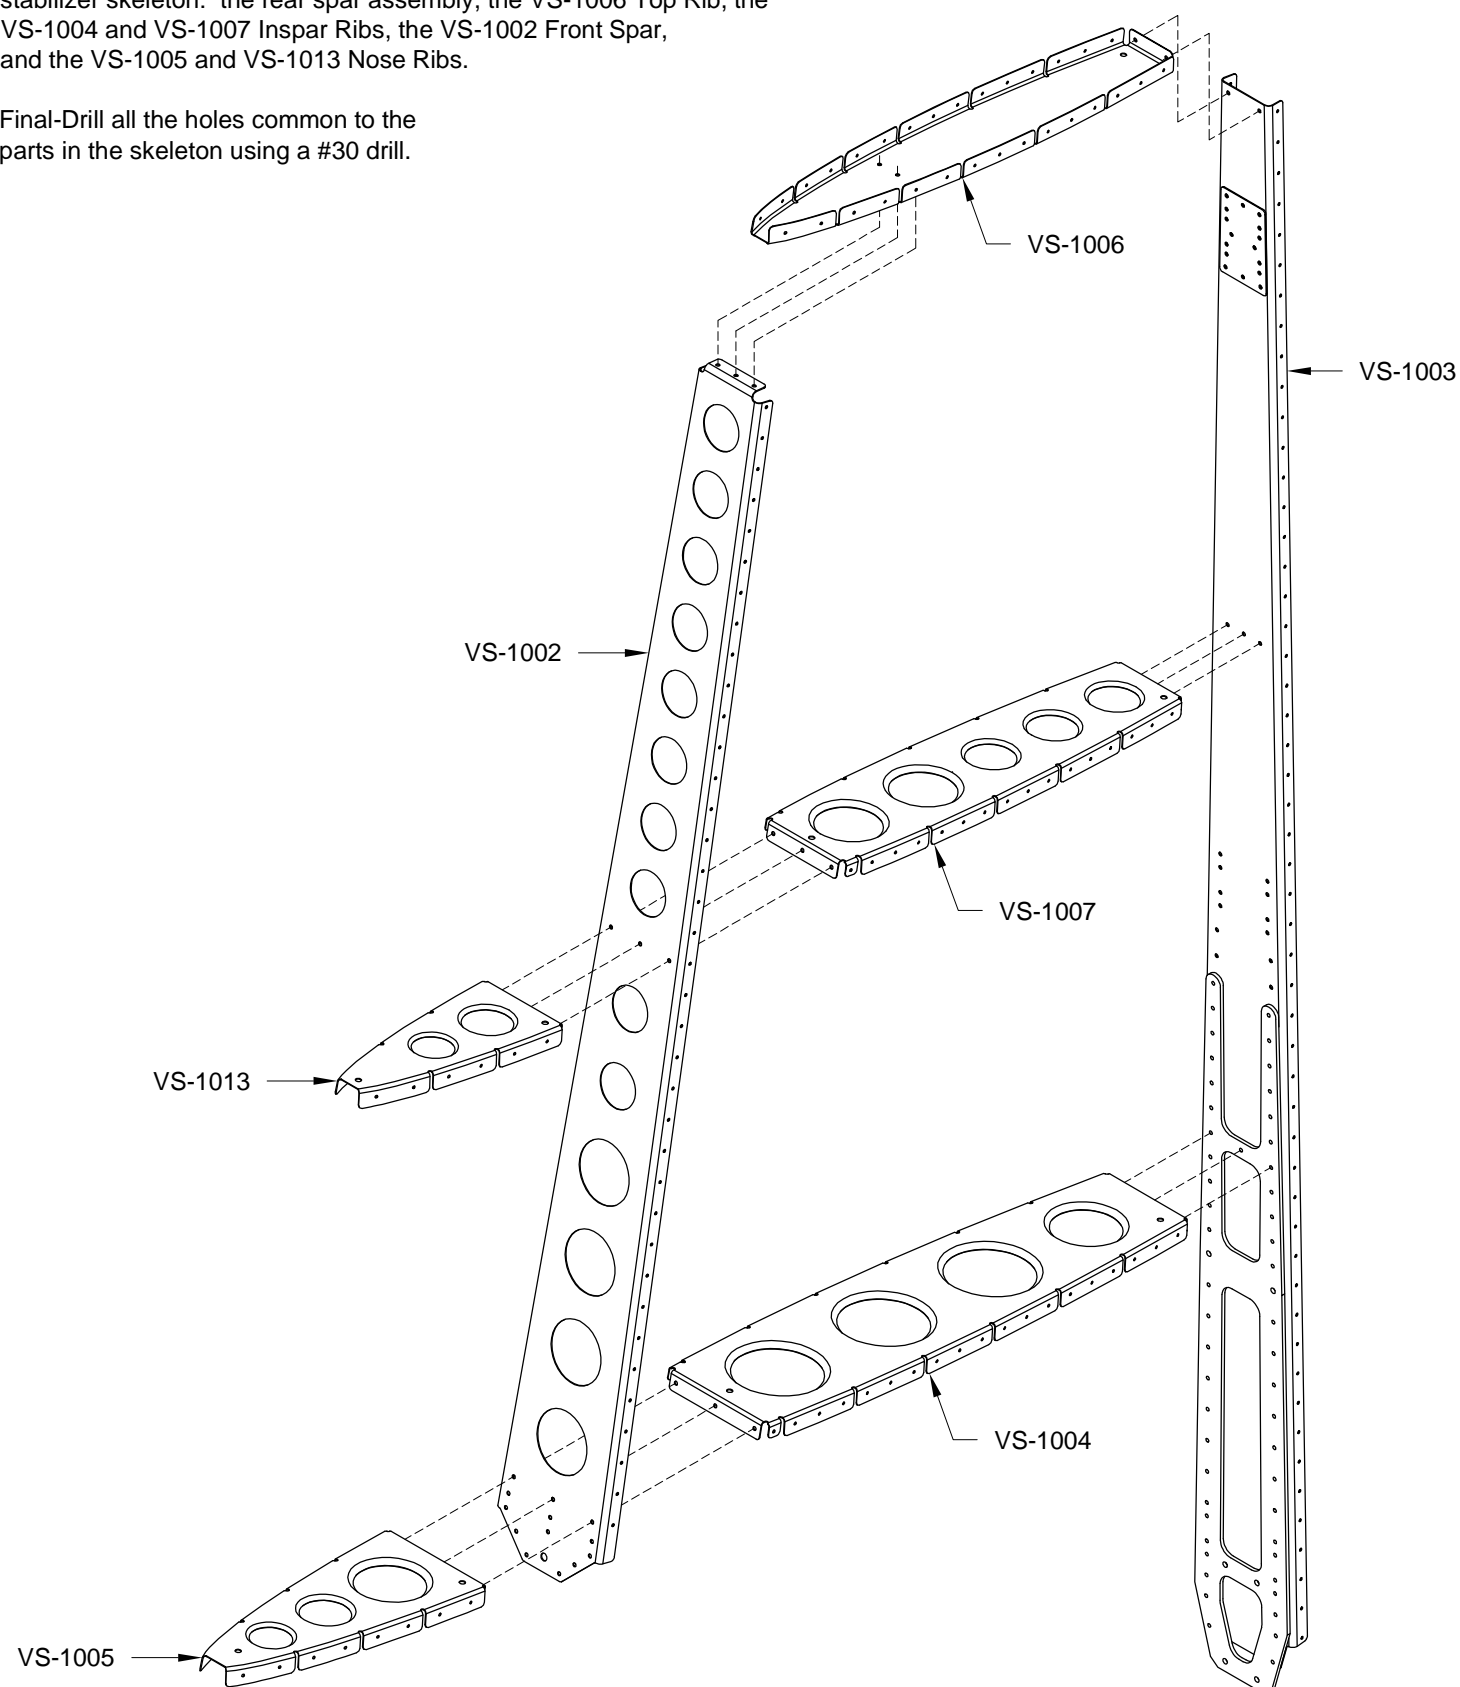

FIGURE 1: SKELETON ASSEMBLY
Step 2: As shown in Figure 1, cleco together all the parts of the vertical stabilizer skeleton: the rear spar assembly, the VS-1006 Top Rib, the VS-1004 and VS-1007 Inspar Ribs, the VS-1002 Front Spar, and the VS-1005 and VS-1013 Nose Ribs.
Step 5: Empennage fairing screw holes are indicated on Page 6-6, Figure 1, along the bottom edge of the depicted skin. Mark the corresponding holes in the VS-1001 Vertical Stab Skin, and in the flanges of the VS-1005 Bottom Nose Rib, the VS-1004 Bottom Inspar Rib, and the VS-1003 Rear Spar.
Step 6: Dimple all the holes of the VS-1001 Vertical Stab Skin except for the following: the eight vertical stab tip fairing attachment holes at the top of the skin (see Page 6-6, Figure 1) and the holes just marked in Step 5. Depending on the vintage of your "C" frame tool, you may not be able to reach all of the holes to dimple. The unreachable holes can be dimpled with a pop rivet dimple die set available from tool suppliers.